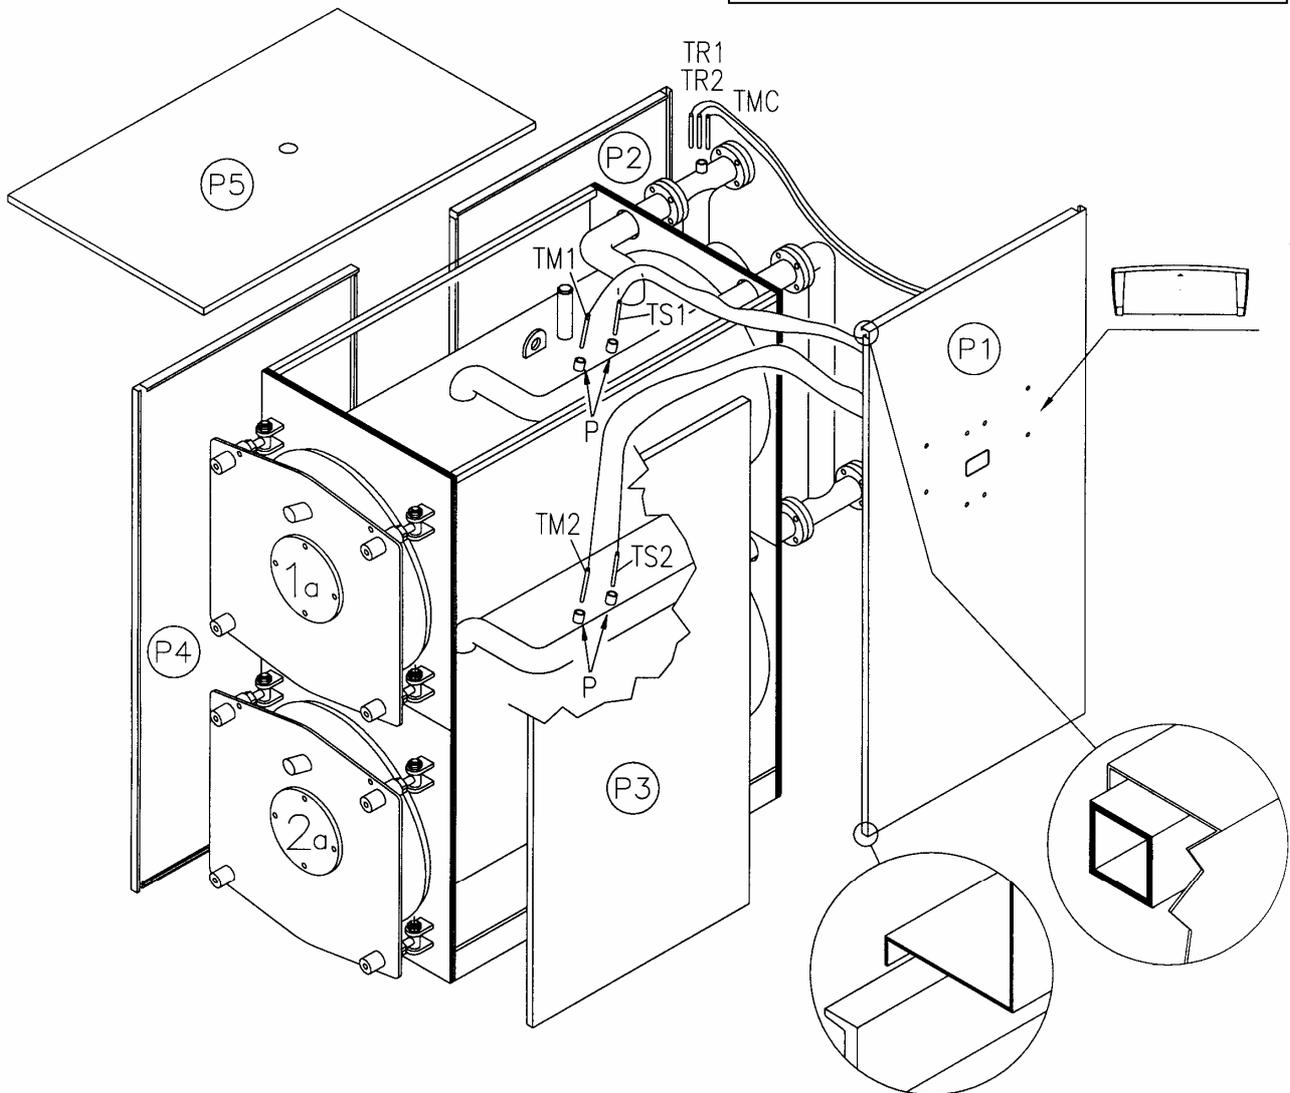

Fig. 10
4.4 REX DUAL BOILER CASINGS (Fig. 10)
- a) Wrap the glass wool around the boiler body leaving the bulb well (P) on the right side exposed.